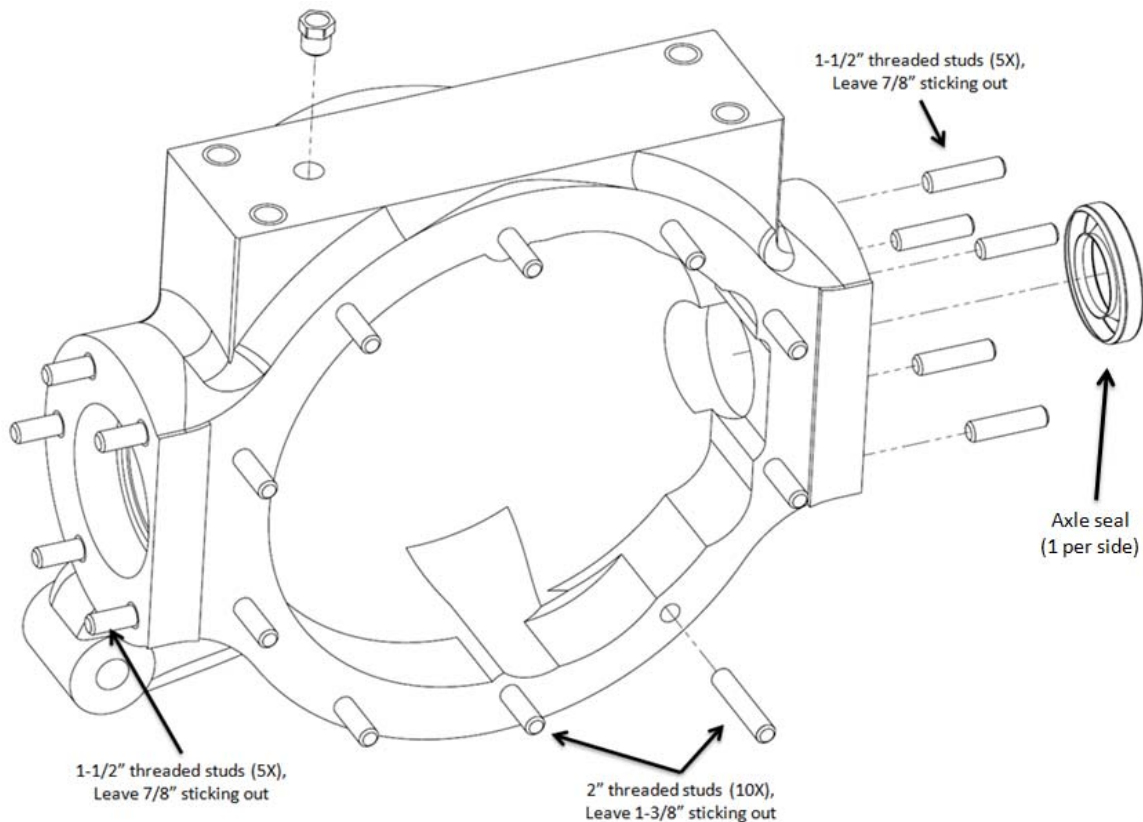

Figure 1. Install the vent, seals, threaded studs and drain plug (not shown) into the rear end housing
- 2) Next, install the threaded studs into the housing. There are 20 studs total, 10 are 1-1/2" long, and 10 are 2" long. Using a high strength thread locking compound, apply a few drops to each stud before installation. The shorter studs get installed onto the housing ends (5 on each side) for the caliper brackets and the longer studs get installed on the mounting face for the third member housing. The short studs should be installed with 7/8" protruding from the housing ends, and the long studs should be installed with 1-3/8" protruding from the third member mounting face, see Figure 1.
- 4) Bolt the top crossmember to the top of housing with the upper link mounts facing down towards the ground, and the vent hole on the right (passenger) side as shown in Figure 1. Attach using QTY=4, ½" X 2-½" bolts, and 12mm washers supplied in the kit (metric washers are used here due to their small outer diameter). **Torque to 70-75 ft lbs.** Slip QTY=2, ½ X 6 ½" Bolts into the upper shock sleeves. Make sure that the threaded end is facing the rear of the housing. The bolts are slid into the sleeves now, because once the cross member is lifted in place and bolted to the saddles, there is no room to slide the bolts through sleeves.